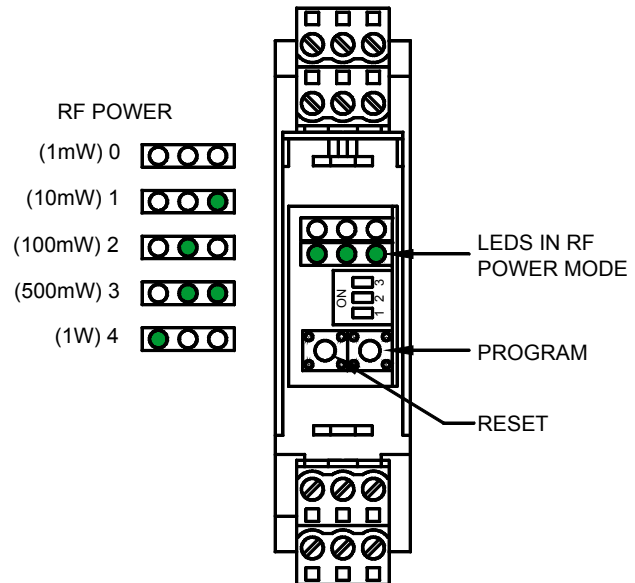

Figure 6 RF power setting.
**Mode 6 (b110): RF Power Select:** Set mode switches for mode 6 (see figure 6) then press and release the reset switch. There are 5 RF power settings available (1mW, 10mW, 100mW, 500mW, 1W). After power up sequence, the present RF power setting will be displayed, see figure 7. To return to normal mode return all switches to b000 or to change RF power setting, press and release the program switch and the next incremented channel will be displayed. Each subsequent press and release of the program switch increments the RF power, power setting will wrap around from 4 to 0. When the desired power level is displayed, press and hold the program switch for five seconds, the power LED will blink twice to indicate value has been stored. Return all switches to b000, programming is complete.